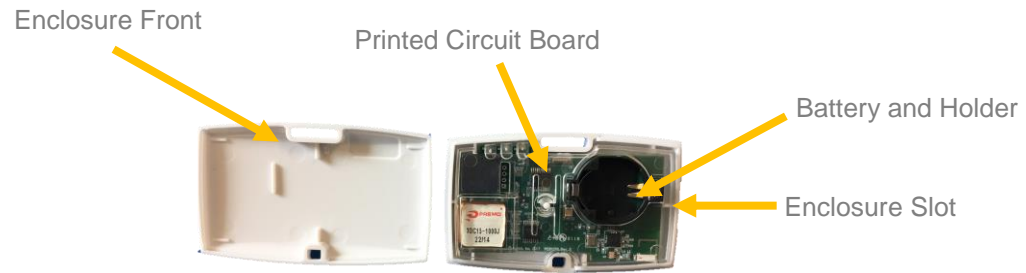

Figure 9. Badge Battery Replacement
2. Lay the Badge face up on a solid working surface and remove the front half of the Badge enclosure. This will expose the **Badge** printed circuit board (see Figure 9).
3. Use a toothpick, tongue depressor or similar NON-conductive instrument to carefully push the battery towards the edge of the printed circuit board until it can be grasped and removed from the battery holder (see Figure 9).